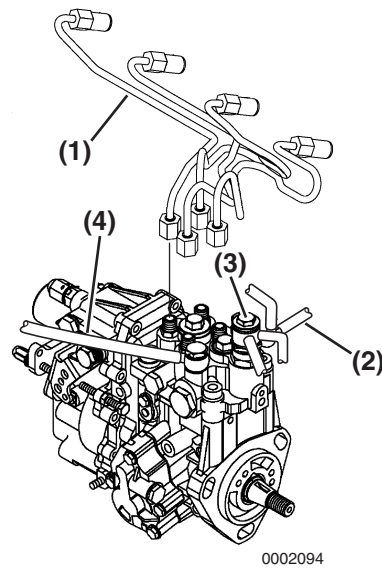

Figure 7-6
5. Remove the high-pressure fuel injection lines as an assembly (**Figure 7-6, (1)**).
8. Disconnect the coolant lines from the cold start device (**Figure 7-6, (3)**) on the fuel injection pump. Plug the open ends of the lines to minimize leakage and prevent contamination.
9. Disconnect the fuel return lines from the fuel return fitting (**Figure 7-6, (2)**). Plug the open ends of the lines to minimize leakage and prevent contamination.
10. Remove the fuel supply line (**Figure 7-6, (4)**). Plug the open end of the line to minimize leakage and prevent contamination.